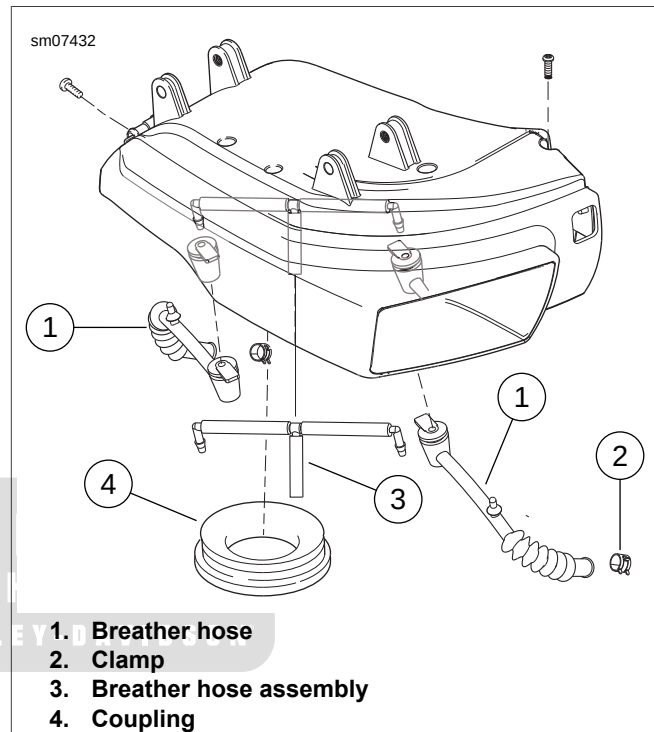

Figure 4-3. Air Box: XR 1200X
4. See Figure 4-3. Disconnect the crankcase breather hoses from the front and rear rocker cover fittings.